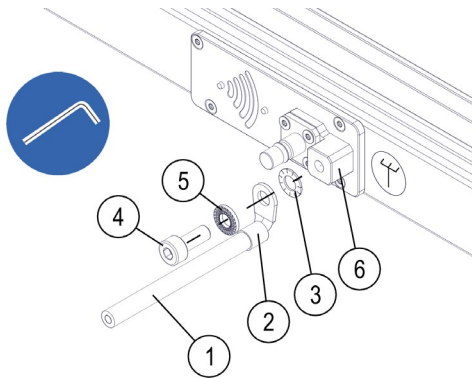
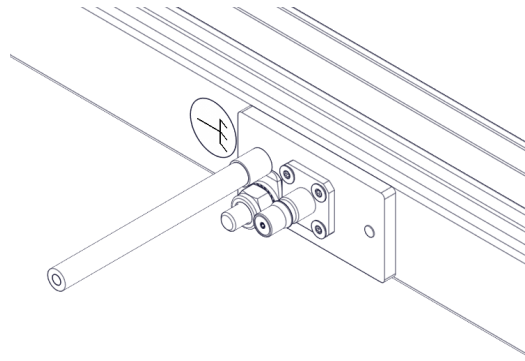

Fig. 97: Mount equipotential bonding cable to power feed segment of data rail (signal propagation on one side)
Fig. 100: Fully mounted equipotential bonding cable (signal propagation on both sides)
→ The power feed segment of the data rail has an equipotential bonding connector (6). Screw the crimped equipotential bonding cable (1 and 2) to these using the fittings, consisting of the cylinder head screw or nut (4), detent-edged washer (5) and serrated washer (3) (see Fig. 97 to Fig. 100).